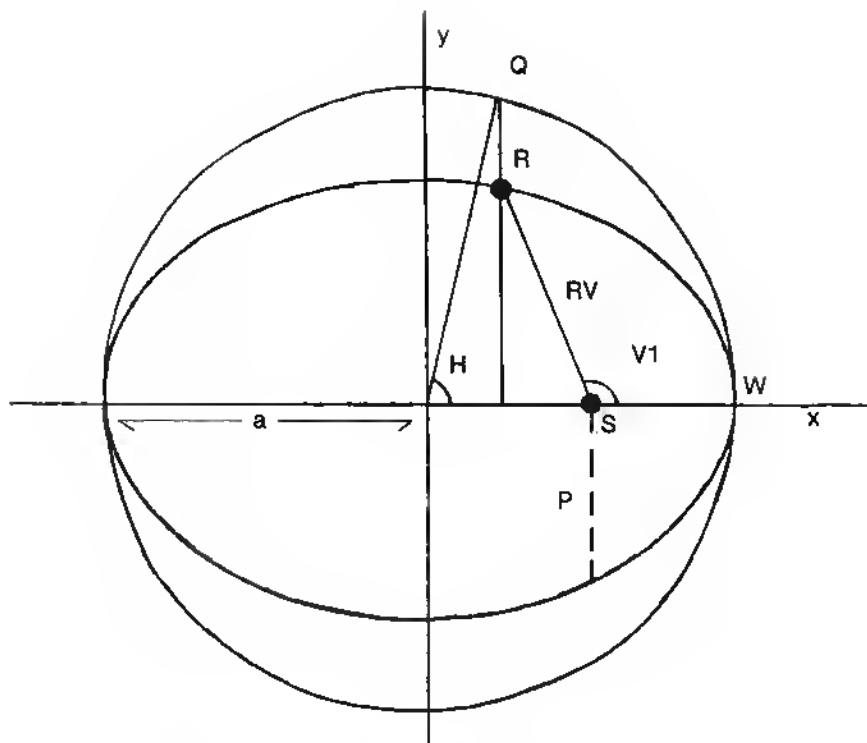

Figure 2
axis, e the eccentricity of the ellipse (c/a) and H (figure 2), the angle in RADIANS from the center of the ellipse to point q . Point q being on a circle of radius a , intercepted by a perpendicular line from the major axis going thru point R to the circle.
we get the angle V1 that the planet lies in relation to the sun (figure 2). The value P in equation (4) being a perpendicular line from the focus to the ellipse and equal to $a(L-e^2)$. By increasing angle A at the daily rate we get the X,Y coordinates for each day and plot it on the screen.